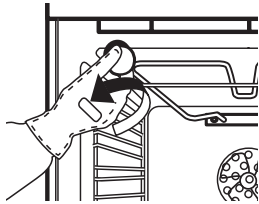

Fig. 5
- 2. Unscrew the lamp cover (Fig. 5), replace the lamp (see note for lamp type) and screw the lamp cover back on.